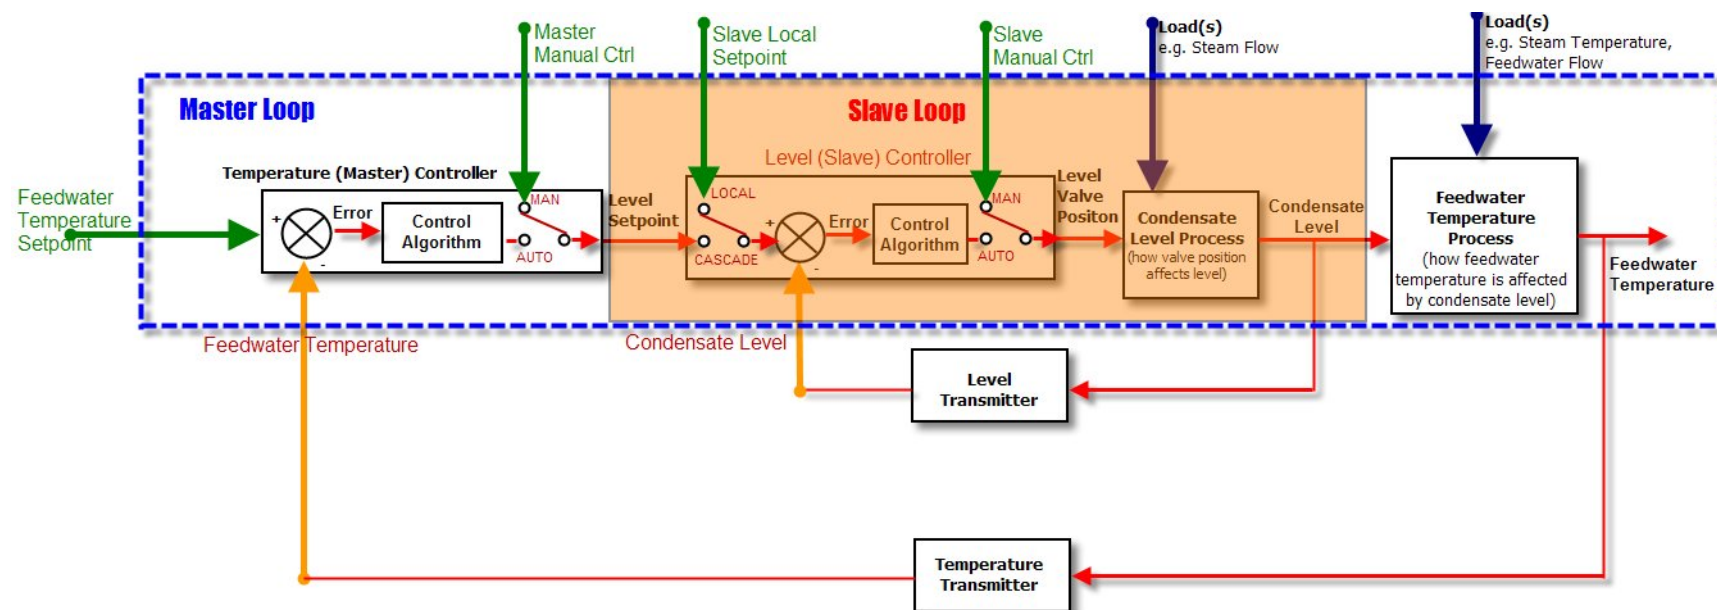

Figure 7 - Cascade Loop In 'Fully Manual' Mode
1. Tune the Slave: Put the system into fully manual mode (Master: MAN, Slave: MAN, Slave: LOCAL) as per Figure 7. Then tune the Slave loop.